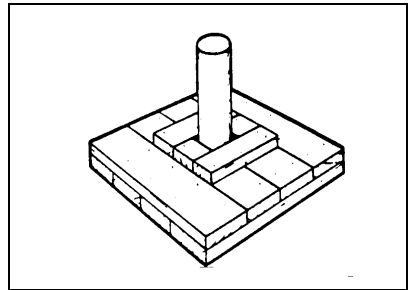

Fig 13-3 Improvised Base Plate
5. **Baseplate.** A baseplate is one method of distributing the load over a safe area of ground so that the upright does not sink in. Fig 13-3 shows an improvised baseplate at the foot of a post which is held in position by stops nailed to the plate.